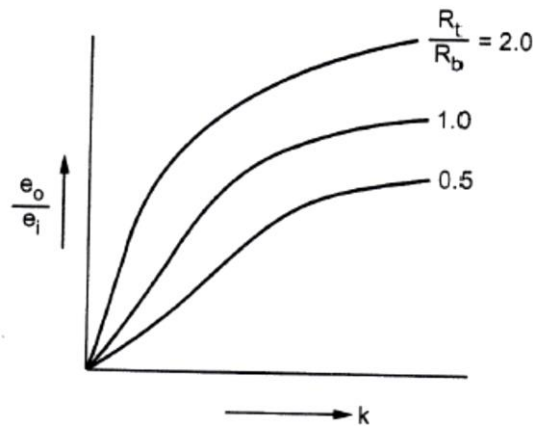

Fig.4.7 – Input-output relationship for ballast circuit
- ▶ Fig.4.7. shows the input-output relationships for a ballast circuit. It may be noted that a percentage in supply voltage e_i results in a greater change in output than does a similar percentage change in k , hence very careful voltage regulation must be employed. Further, the relationship between input and output is not linear.